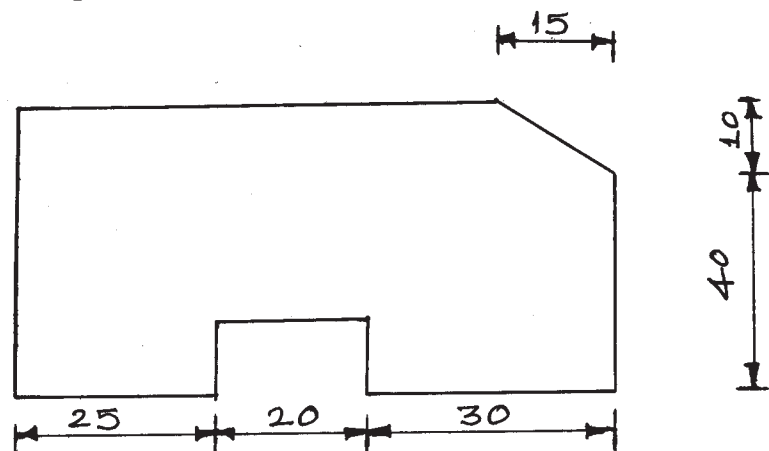

Fig. No. 2.
- a) Prepare a part program for machining a component as shown in Fig. No. 2. Assume suitable cutting speed and feed. Thickness of component is 4 mm and neglect the cutter radius compensation.